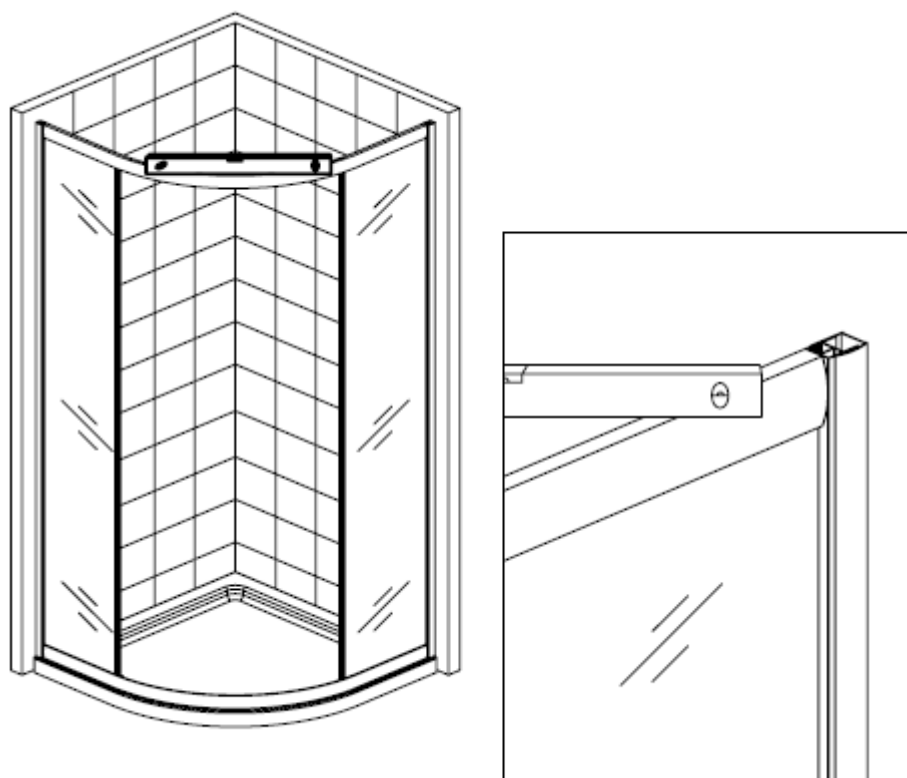

Figure 9
9. Make sure that the rail profile is horizontal by using the spirit level,as showed in figure 9.